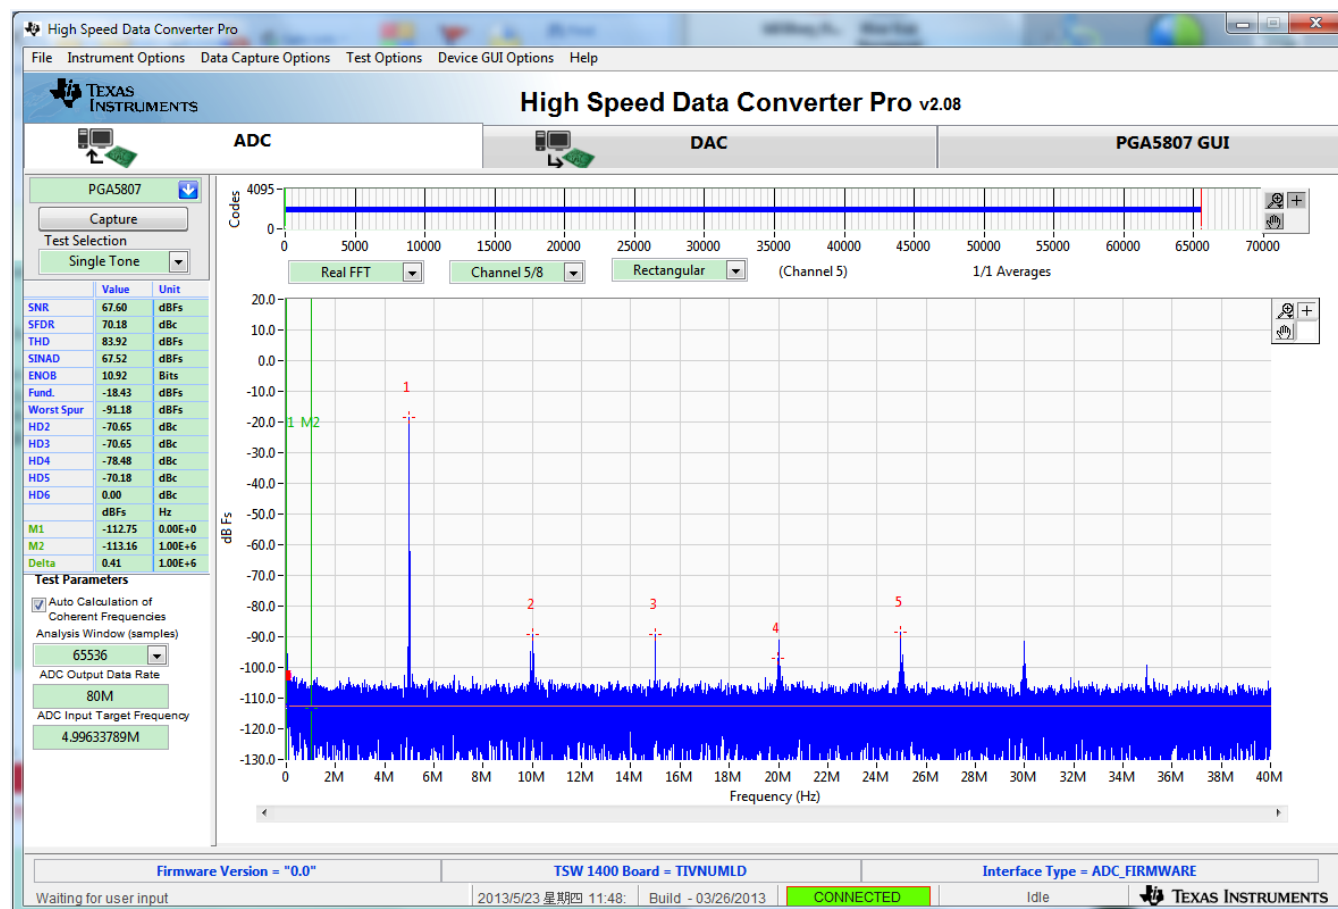

Figure 47. PGA5807+ADS5296 Gain Test Capture 2
- Clicking on the ADC tab and pressing *Capture* results in Figure 47. Take the difference in the *Fund.* value shown here to the previous capture. This difference should equal the difference in *PGA_GAIN* values between the two captures, or 18 dB. In this example, the difference is 17.4 dB.